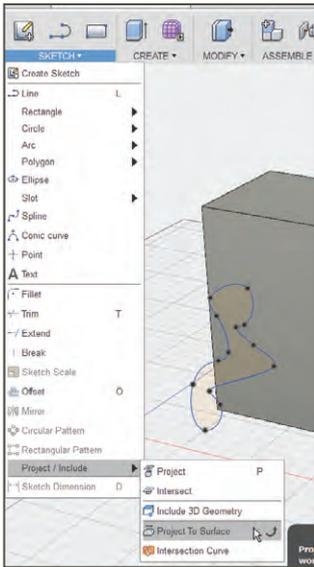

FIGURE 2-47: Click Project / Include → Project To Surface.
1. Click Project / Include → Project To Surface (Figure 2-47).